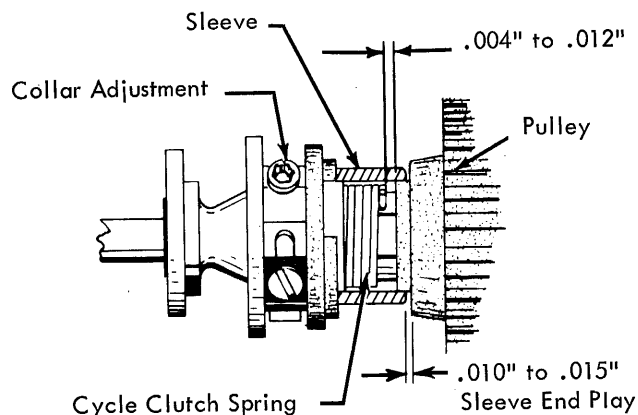

FIGURE 89. Lateral Position of the Cycle Clutch Spring and Collar
- a. Lateral position of the spring - Loosen the collar and position the spring left or right on its hubs so that the right hand end of the spring will clear the face of the cycle clutch pulley by .004" to .012" (Fig. 89).